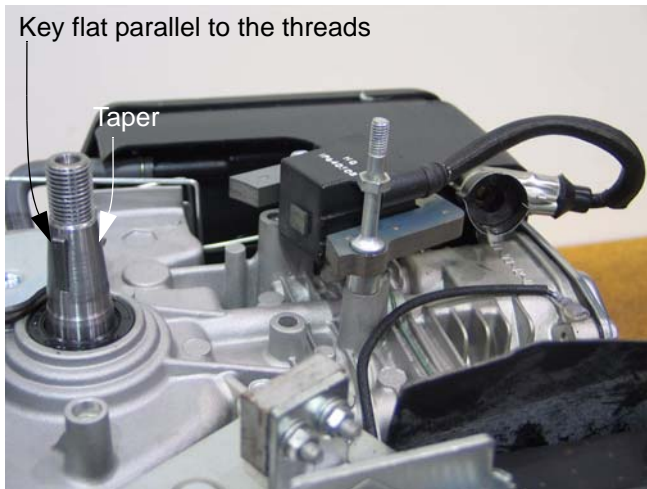

Figure 7.27
- 2c. Inspect the key, keyway, and tapered mating surfaces of the flywheel and crankshaft. See Figure 7.27.